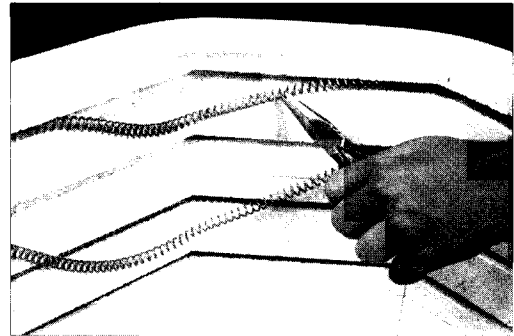

Figure 49
- b. Use needle-nose pliers to remove elements (see Figure 49).